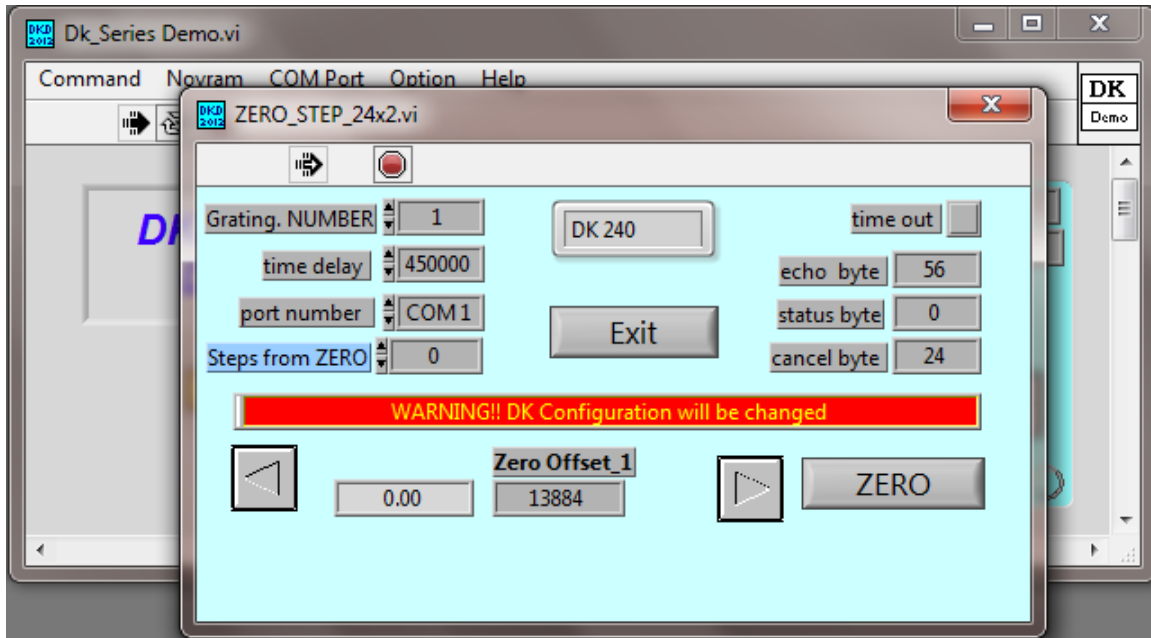
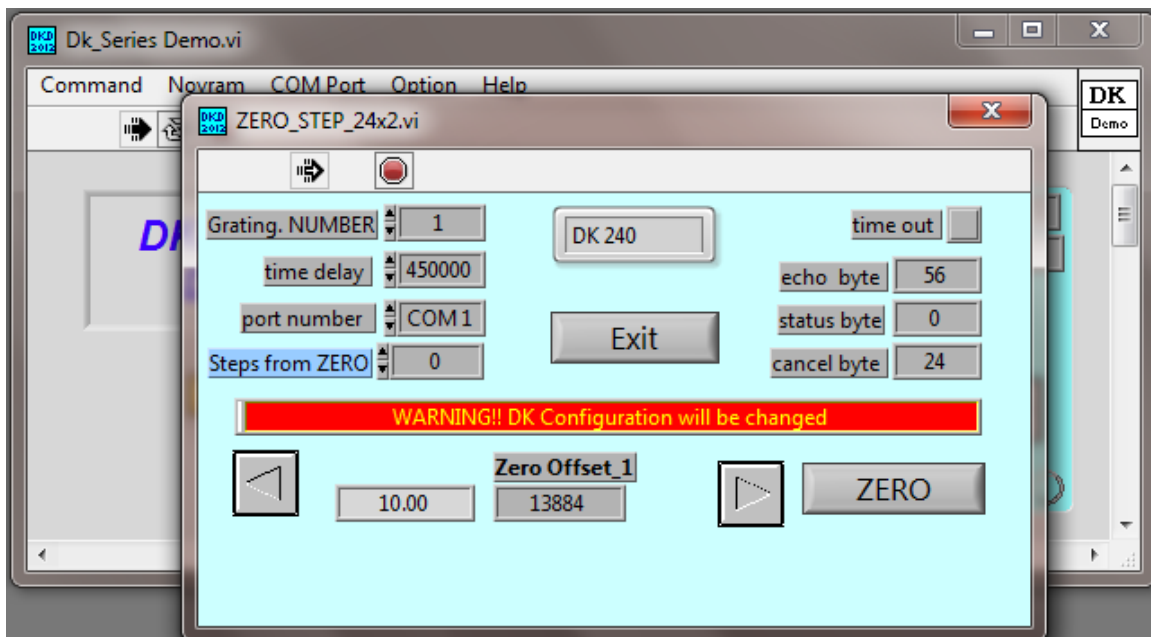

Figure 14. ZERO
Figure 15. Zero
9.3.1 Zero –When the Zero vi is opened (Fig 14), the grating will automatically drive from its current position to its known zero position. The current zero offset is shown, as well as the current position. Use the arrow buttons to step the grating in the needed direction to allow the input source to exit. In figure 15, you can see we moved the grating 10 steps in the positive direction.